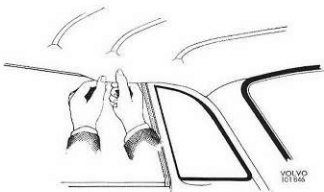

Fig. 8-50. Removing headlining
2. Pull down the edge of the headlining with finger and thumb on one side as shown in Fig. 8-50 so that the plastic edge can be released from its fastening in the rail.